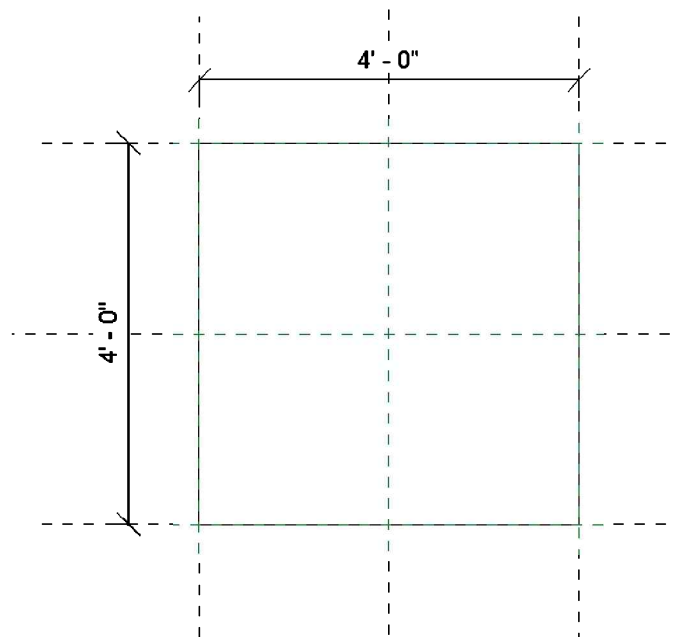

FIGURE 18-3.2 Second dimension added
4. Similar to the two previous steps, add another dimension for the other side of the box (Figure 18-3.2).